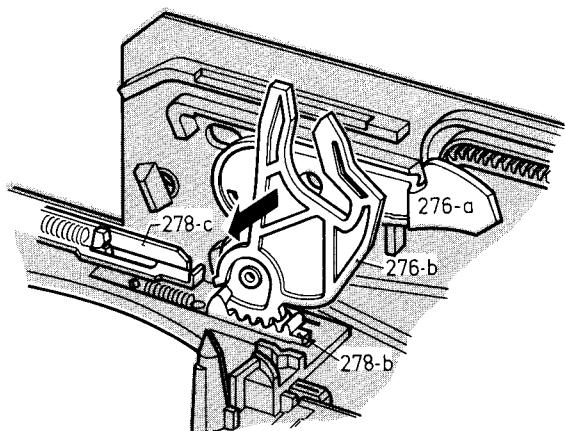

Fig. 1-23
- Demount lift pos. 201 (1.1).
- Demount top plate pos. 255 (1.13).
- Rotate threading-in ring anticlockwise until slide pos. 278 can be moved backwards, the lift drive lever of which is brought into vertical position, and pull out the lever toward the left (Fig. 1-23).